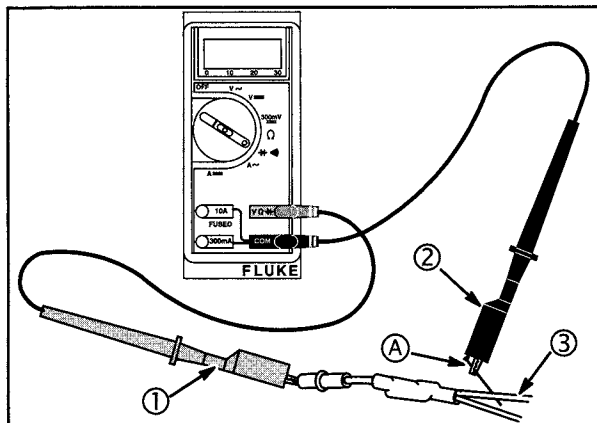

Fig. 21
4. Attach BLACK test lead clip (2) to point A of the RED wire (3), **Fig. 21**. (It may be necessary to pierce wire with a pin as shown.)
5. Insert RED test lead (1) into harness connector.